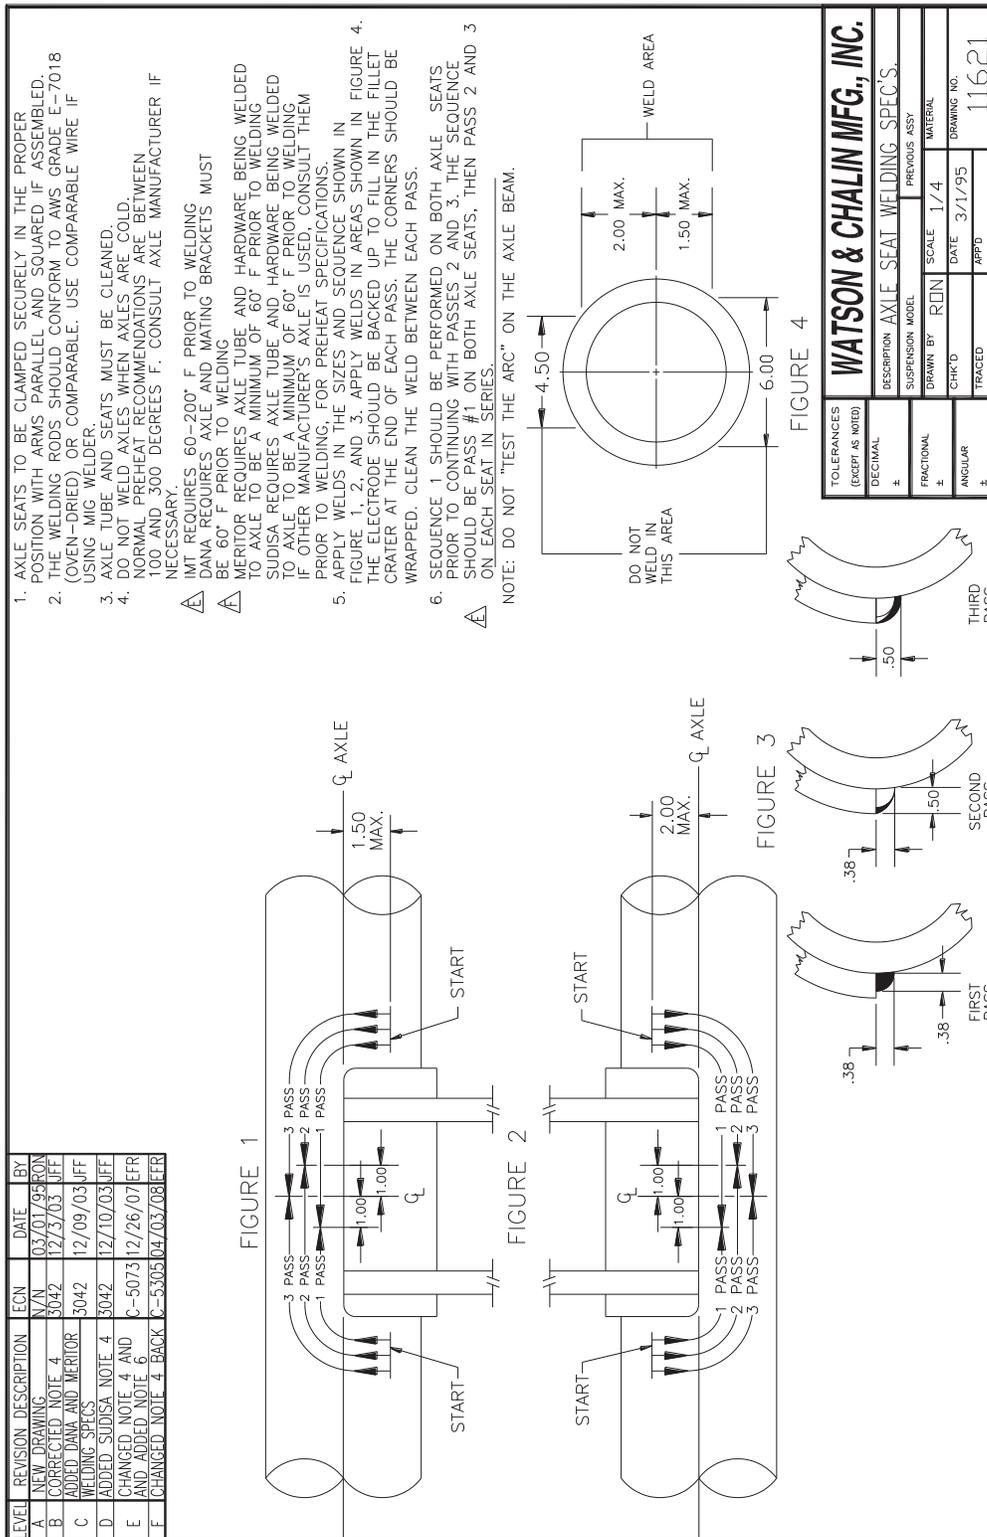

Figure 6-2
4. Inspect for any gap between axle seat and axle when seated. The axle is to have contact with axle seat. A 1/8" gap is maximum between the axle and one edge of the axle seat. (See Figure 6-2)